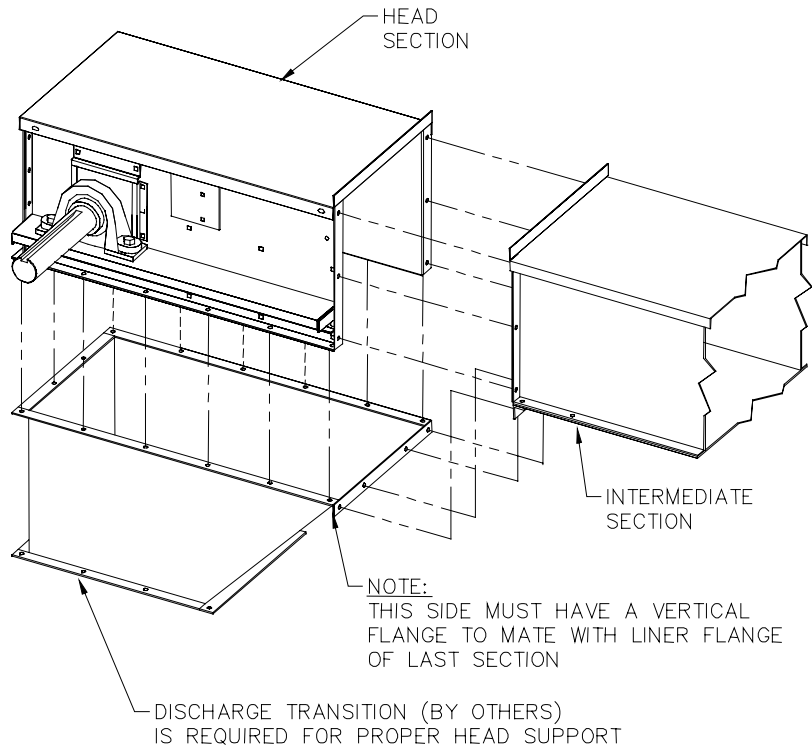

Figure 2-3A Head Section With Support Transition
- A. Position the head section over the discharge chute. Refer to **Figure 2-3A**. Note that head is not self supporting and must be attached to a transition or flange to operate properly. The transition must have a vertical flange on the intermediate section side.